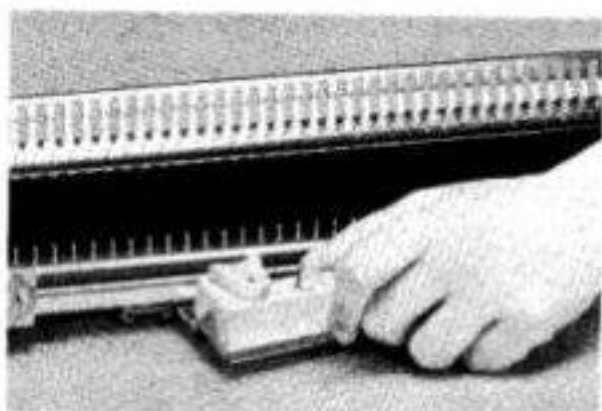

Fig.10
6. Insert the row counter in position into the socket to be found at the centre back under the machine.(Figs.10 & 11)